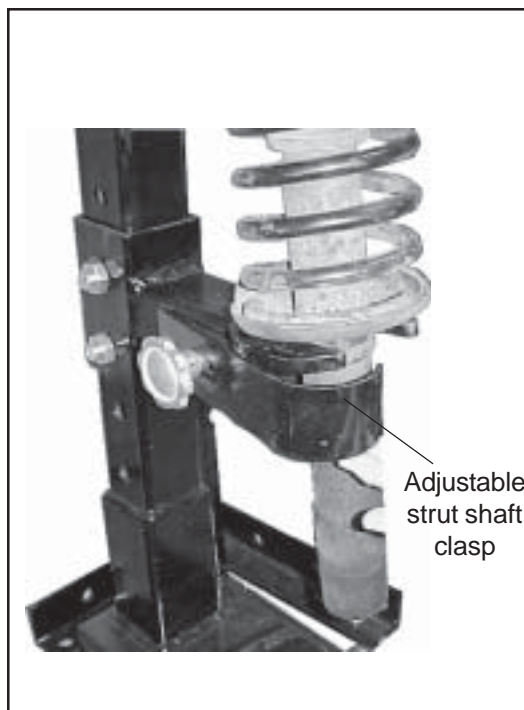

Figure 9
1. Secure the base of strut assembly to the compressor fixture by adjusting the strut shaft clasp (*refer to Fig. 9*).